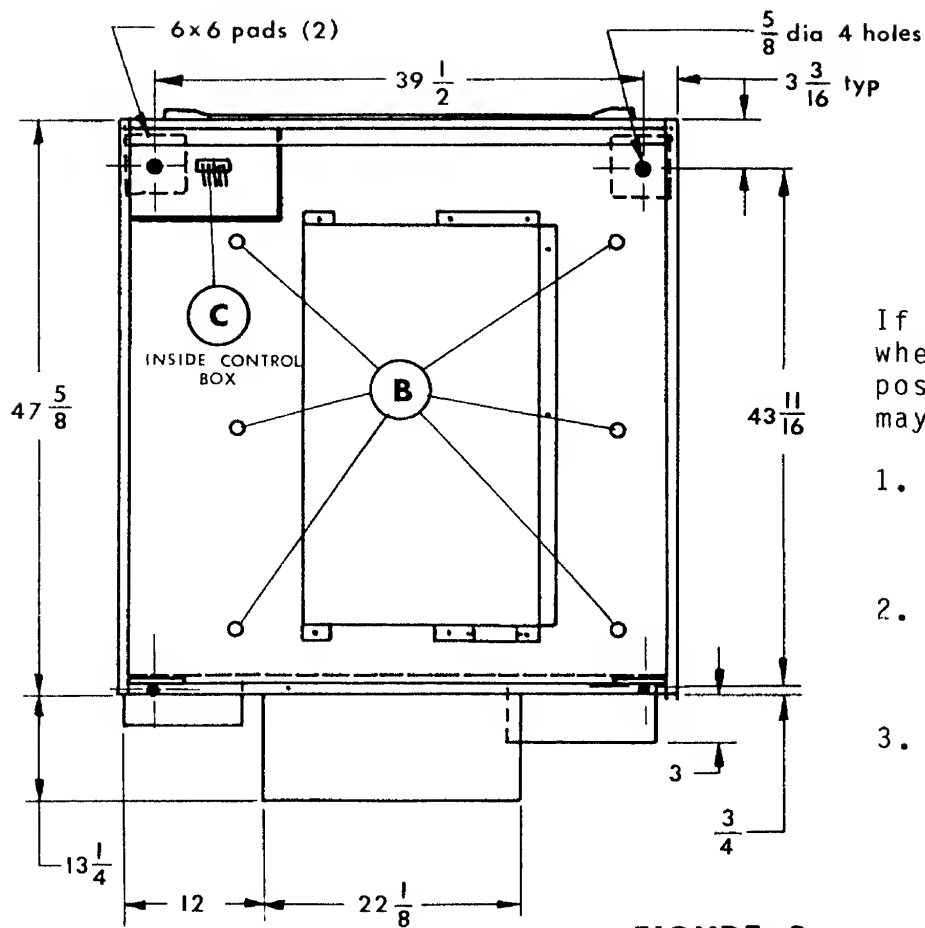

FIGURE 3
2. Remove the six (6) nuts (B) holding the console to the base. (Figure 3)
3. Open the control door and disconnect the white 15-pin plug (C) located at the bottom of the control box. (Figures 3 and 4)